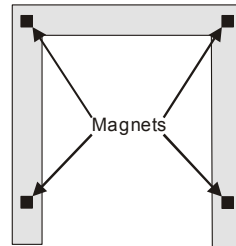

Figure 42
2. The trim is held on by four magnets. These will either be attached to the trim or supplied loose in a separate envelope. Space them as shown in **Figure 42**.